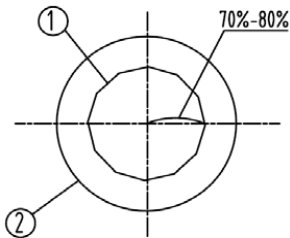
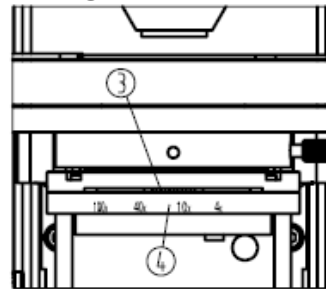

Fig.15 Objective Aperture and Aperture Diaphragm
Fig. 16 Iris Diaphragm Setting
The diaphragm aperture ① (Fig. 15) of the condenser is set at 70-80% of objective aperture ② (Fig. 15) for best result. You can observe this by removing the eyepiece and viewing through eyepiece tube. Slide the Iris setting lever ③ (Fig.16) to match the power of the objective in use. The Iris is graduated ④ (Fig.16) with 4/10/40/100X & Ph (phase)